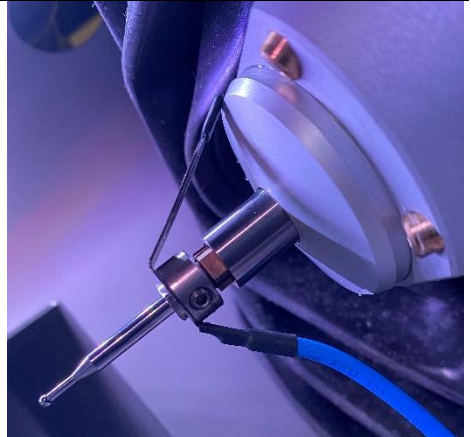

Figure 32 Correct probe position
7. Insert the TouchProbe tool as seen on [Figure 31] and [Figure 32], then close spindle collet chuck by pressing *Cartridge*.
Make sure that the TouchProbe is properly put in the spindle, and the positioning pin is sitting in the slot making the probe unable to rotate around! For correct positioning see [Figure 32].
The TouchProbe should fit correctly both in the collet chuck and the spindle slot **[Figure 32]**.